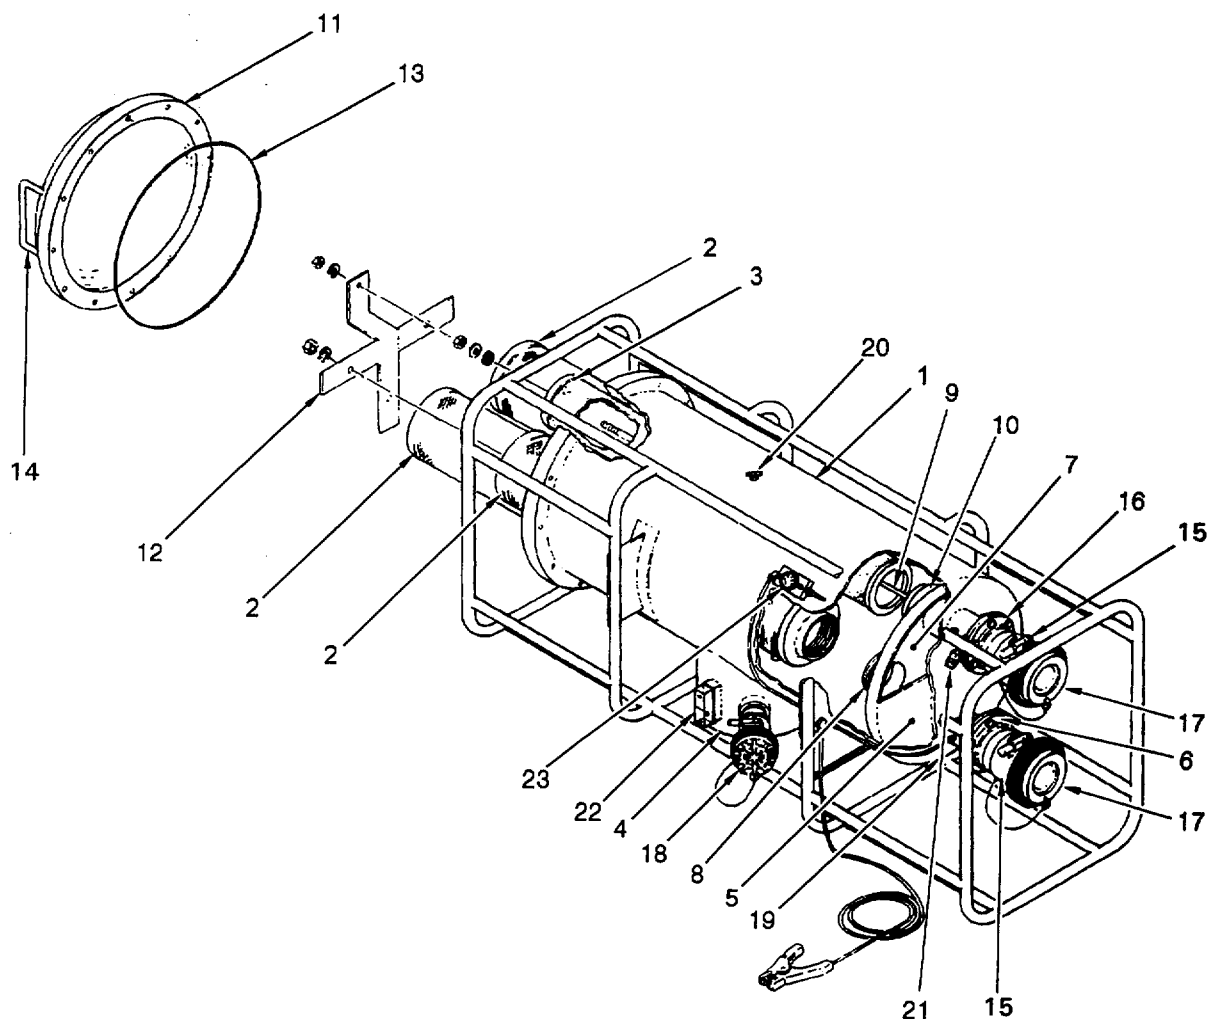

Figure 1-2. Liquid Fuel Filter-Separator Component Location
1.9 LOCATION AND DESCRIPTION OF MAJOR COMPONENTS. (Refer to figure 1-2.)
1.11 GENERAL FUNCTIONAL DESCRIPTION. (Refer to figure 1-2.)